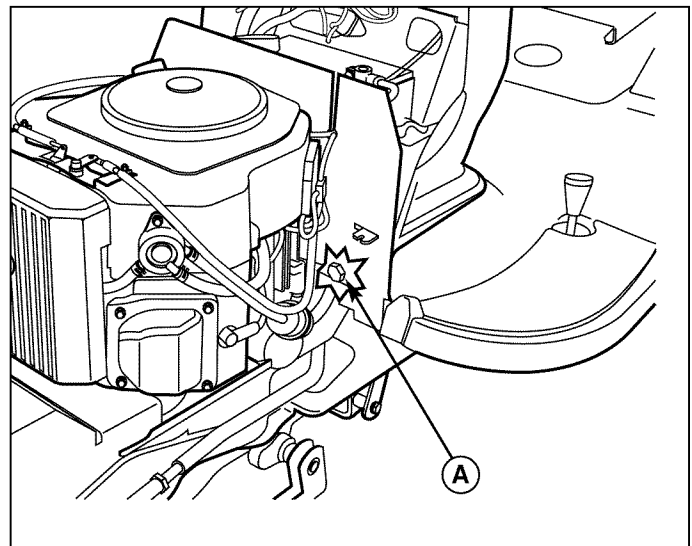

Figure 44. Manual Lift Assist Adjustment
1. Locate the adjustment bolt (A, Figure 44) at the lower left corner of the engine compartment bulkhead.
2. Turn the bolt (A) clockwise to increase assist. Turn the bolt (A) counterclockwise to reduce lift assist.